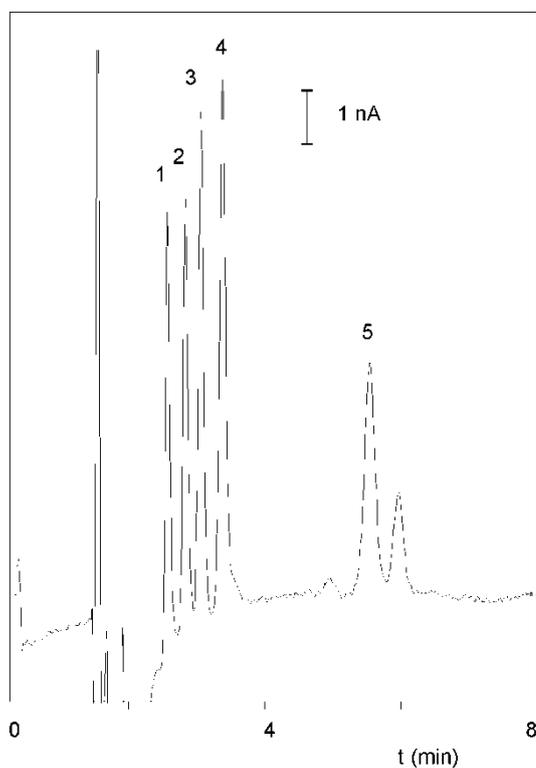

Fig. 30. Pulsed amperometric detection of 100 nmol/l (2 pmol) carbohydrates. Peaks are: sucrose (1), galactose (2), glucose (3), α -lactose (4) and maltose (5).
Several advanced features are implemented in the DECADE II. One of these features is the so-called pulse mode. In pulsed amperometric detection (PAD) the working electrode (WE) is regenerated at a frequency of 0.5 - 3 Hz by the application of a series of potential changes. This is particularly useful for certain applications where the working electrode is rapidly fouled due to adsorption of insoluble reaction products. A well-known application area of PAD is the analysis of carbohydrates (Fig. 30) [1].
Examples of carbohydrate analyses are given in Fig. 30. Typical PAD pulse settings are given in Table VII and Table VIII, these settings may be used as starting point for further optimisation. Carbohydrates are oxidised at a pH of 12 or higher, which puts specific demands on the HPLC system used (see above).